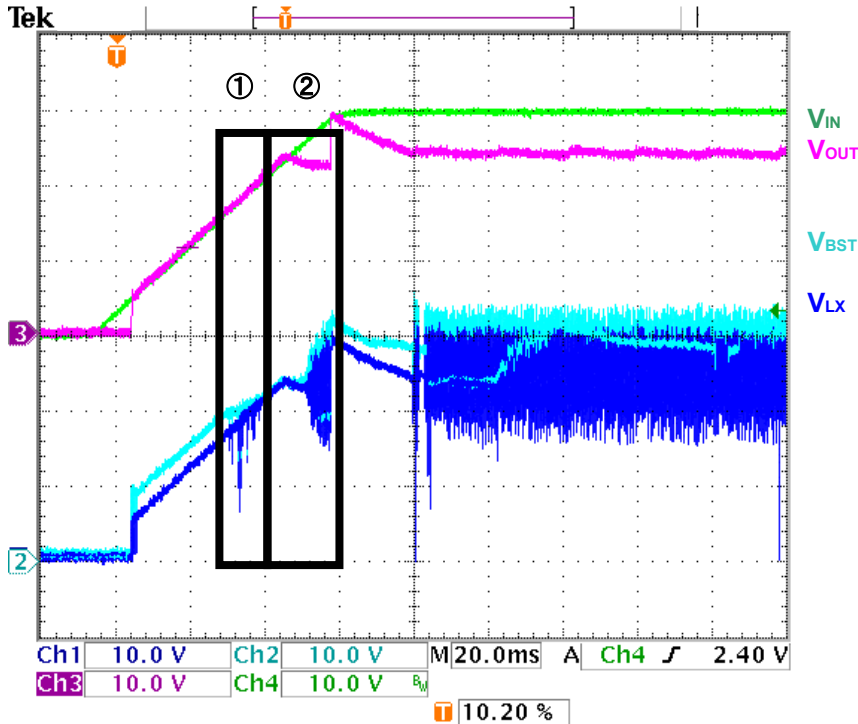
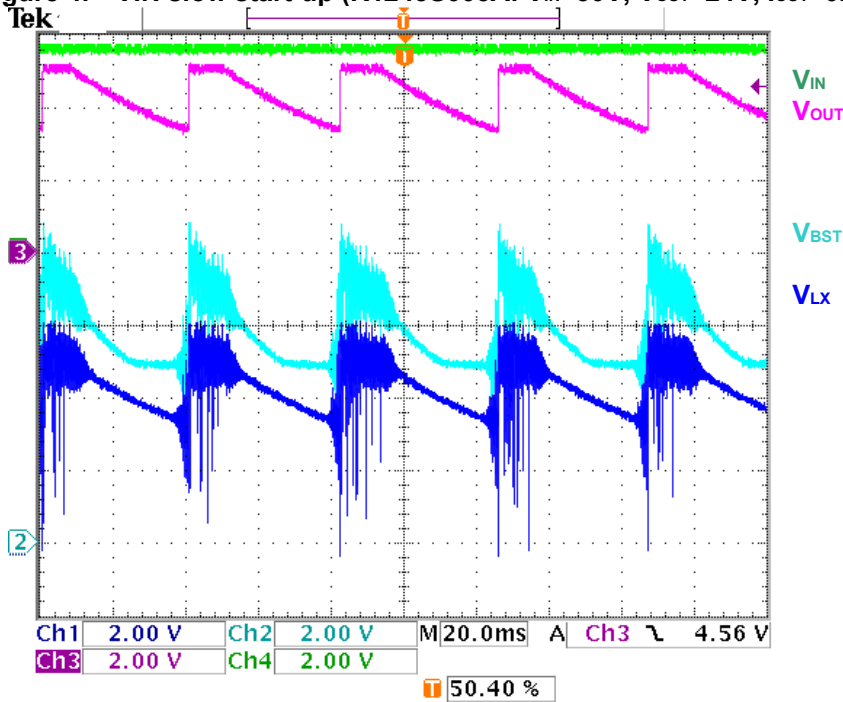

Figure 4. V_{IN} slow start-up (R1245S003A: $V_{IN}=30V$, $V_{OUT}=24V$, $I_{OUT}=0mA$)
Figure 5. The voltage difference between input and output is small (R1245S003A $V_{IN}=5.5V$, $V_{OUT}=5V$, $I_{OUT}=500\mu A$)
When the inductor current is continuous, or load current is big enough even if the discontinuous mode, the forward current of the diode will make Lx pin voltage down and C_{BST} is charged, but at light load, Lx pin voltage does not become low enough against the BST voltage supply regulator output(5V). The voltage of C_{BST} is not high enough and drive capability will be down. (Figure 4-①) Due to the lack of the drive capability, V_{OUT} cannot be maintained, and under-shoot happens to V_{OUT} , Lx pin voltage may become lower than the BST voltage supply regulator output (5V), but the error amplifier operation may be abnormal. When the charge of C_{BST} is recovered and normal switching starts, V_{OUT} becomes back to set output voltage. However, after recovering the V_{OUT} , to recover the error amplifier's operation, some response time is necessary, during this response time, V_{OUT} may be over-shoot. (Figure 4-②) As a result, Lx pin voltage cannot be low enough against the BST voltage supply regulator output voltage (5V), under-shoot and over-shoot may be repeated. (Figure 5)
Abnormal waveforms are shown in the next figures. Figure 4: V_{IN} voltage start-up is slower than the soft-start time Figure 5: The voltage difference between input and output is small and load current is small